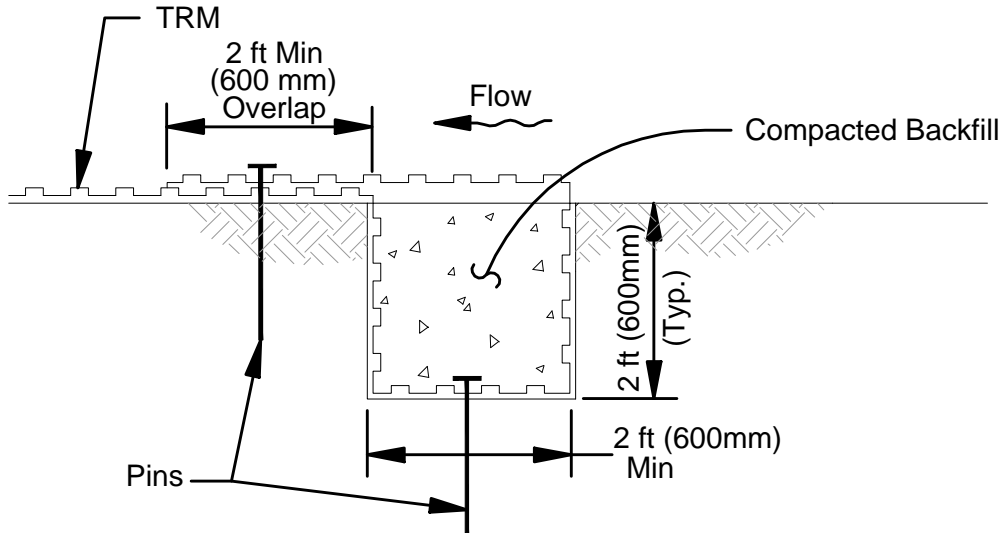

FIGURE 8: TERMINAL TRENCH
- Excavate terminal trench 24 in wide x 24 in deep (600 x 600 mm) minimum across the channel at the upstream end of the project (see Figure 8). Deeper terminal trench and/or hard armoring may be required in channels that have the potential for scour.
- Pin, backfill and compact upstream end of mat in terminal trench (see Figure 8). Terminal trench pinning devices should be spaced on 12 in (300 mm) centers (see Figure 8). Unroll mat in downstream direction over compacted trench with a minimum 24 in (600 mm) lap. Secure lap with pinning devices on 12 in (300 mm) centers.